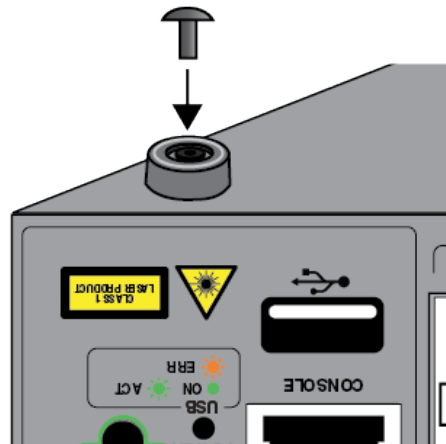

Figure 20. Inserting the Rivet into the Bumper Foot
4. Insert the rivet to secure the bumper foot to the base. Refer to Figure 20.